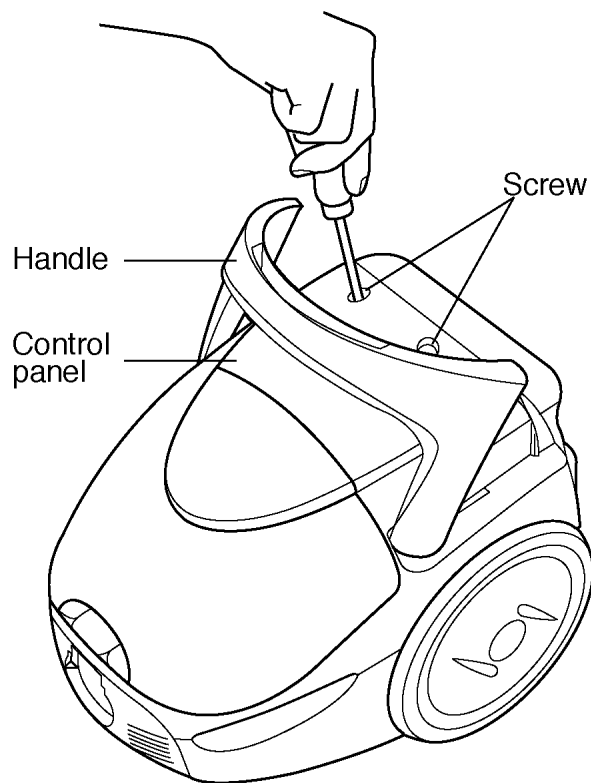

Fig.1
1. Lift up the handle and remove 2 screws from the control panel. (Fig.1)